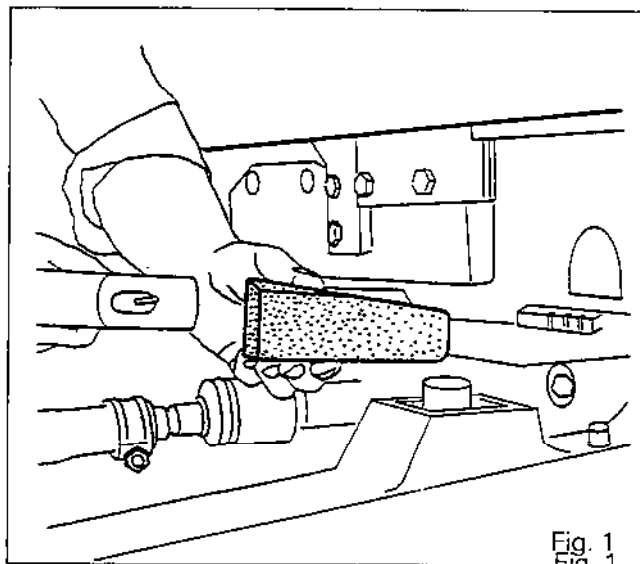

Fig. 1
- fit wedges between the frame and the front axle (Fig. 1)